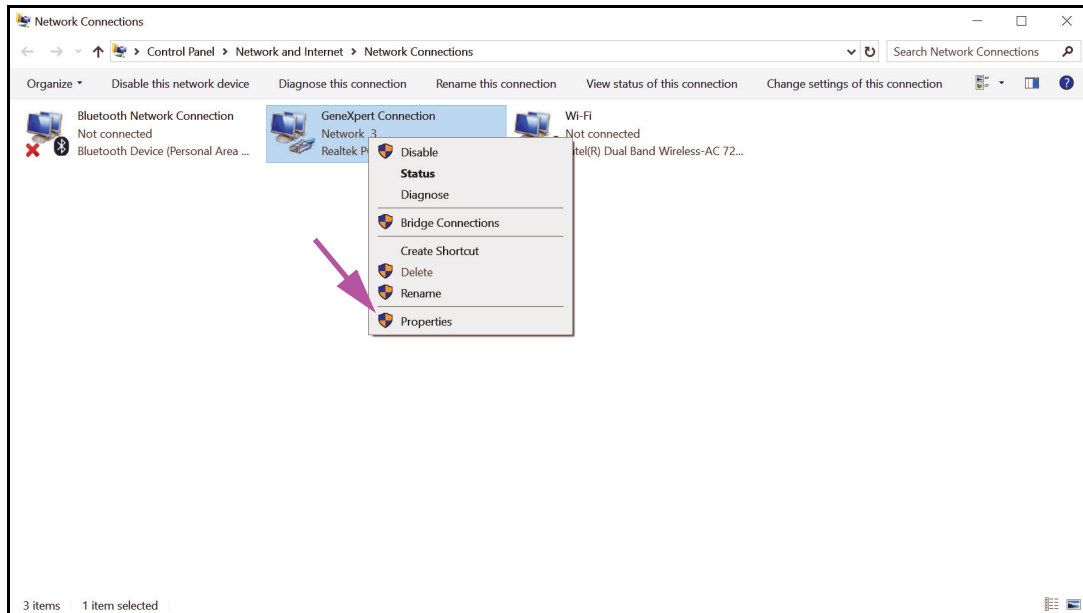

Figure 2-18. Network Connections Screen with Drop-Down Menu
6. Right click the **GeneXpert Connection** entry. A drop-down menu appears. See Figure 2-18.